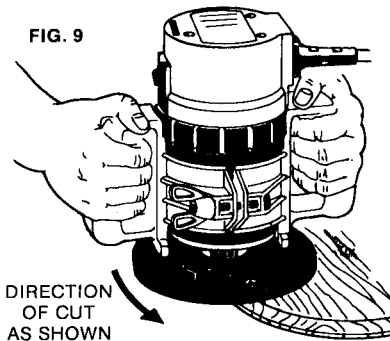

FIG. 9
**Fig. 9** shows a moulded edge being applied to the edge of a table top, using a bit with a pilot end to guide the tool. Use two or more passes to produce deep cuts.